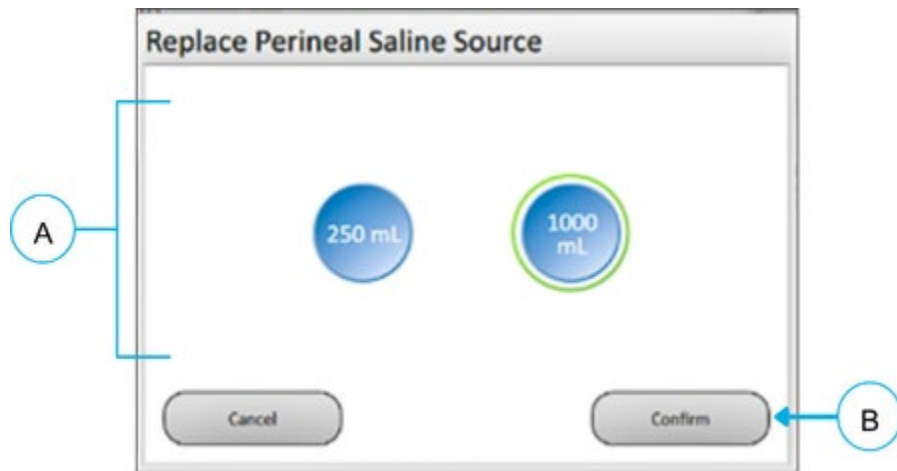

Figure 14-8: Replace Perineal Saline Source Window
3. On the Generator screen (**Figure 14-8**):